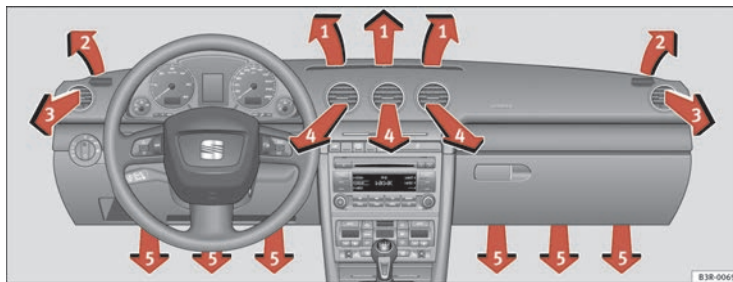

Fig. 143 Dash panel: Location of air outlets
The air outlets ⇒ fig. 143 ③ and ④ can be operated as follows:
Each of the three buttons has a specific function. The numbers relate to the air outlets ⇒ page 169, fig. 143.
After the ignition is switched off, the blower is supplied with electrical power from the sunroof. Please ensure that outlets 3 and 4 are open ⇒ page 169, fig. 143 to ensure the best possible ventilation.